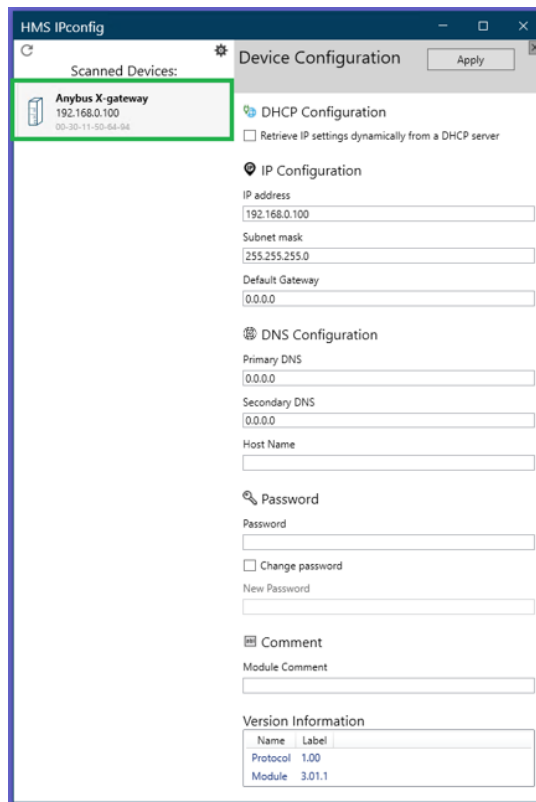

Figure 8.43
3. Within about 5 seconds it should find the gateway as shown in green in Figure 8.43. IPconfig can find X-gateways even when they are on a different subnet.